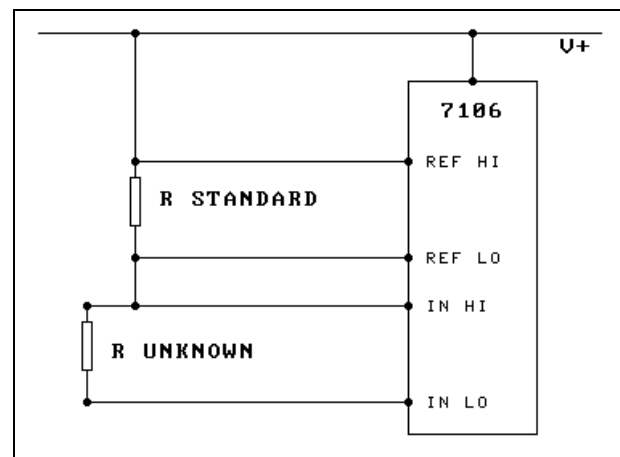

Figure 5 To Measure Resistance.
**Resistance Measurement.** The Kit is not specifically designed for this purpose, however, with some changes to the board this function can be carried out. The principle is shown in Fig. 5. The unknown resistance is put in series with a known resistance and a current passed through the pair as shown. If they are of equal value the integration and deintegration ramps will be of equal slope and the display will read 1000. The maximum readable ratio is 1.999. Since a ratio is being measured the reference resistor need not be exact.